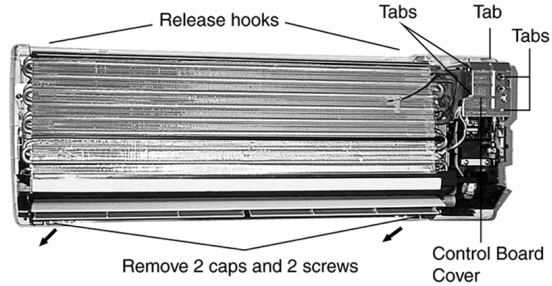

Fig. 1
- Remove the 2 caps and 2 screws at the bottom of the front grille. (Fig. 1)
- Remove the front grille by releasing the 2 hooks at the top of the front grille. (Fig. 1)
- Remove the control board cover by releasing the 2 tabs at left, 1 tab on top and 2 more tabs at right side of the control board cover. (Fig. 1)